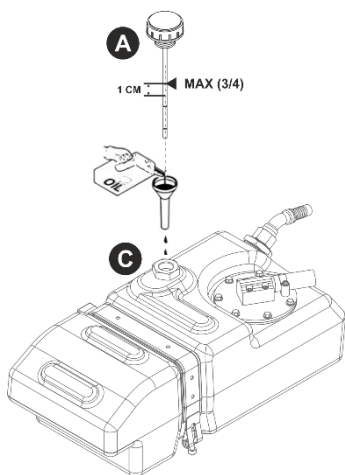

fig. 5.3 – Oil Level
The correct level is when, with the oil cold, it does not exceed the mark on the dipstick (approximately $\frac{3}{4}$ of the tank) and does not fall more than 1 cm below the mark (see fig. 5.3).
- Unscrew the breather cap "A" on the tank (see fig. 5.3), and extract the oil using a suitable suction pump;